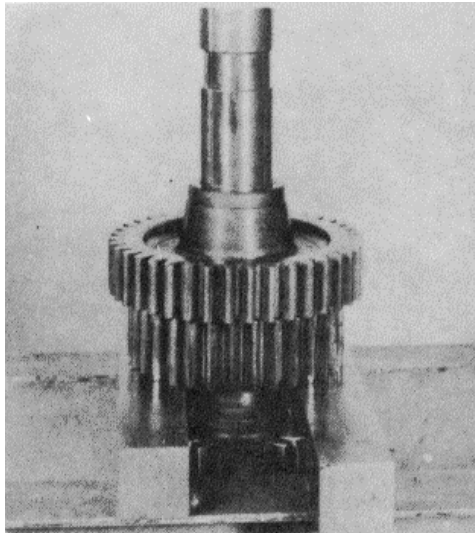

Figure 9B-28. Removing Shaft and 4th Gear
4. The Lo-Lo gear (1st speed gear) is an integral part of the countershaft and does not press off, Figure 9B-29. Keys are still intact in the keyway of the countershaft and can be removed, if necessary.